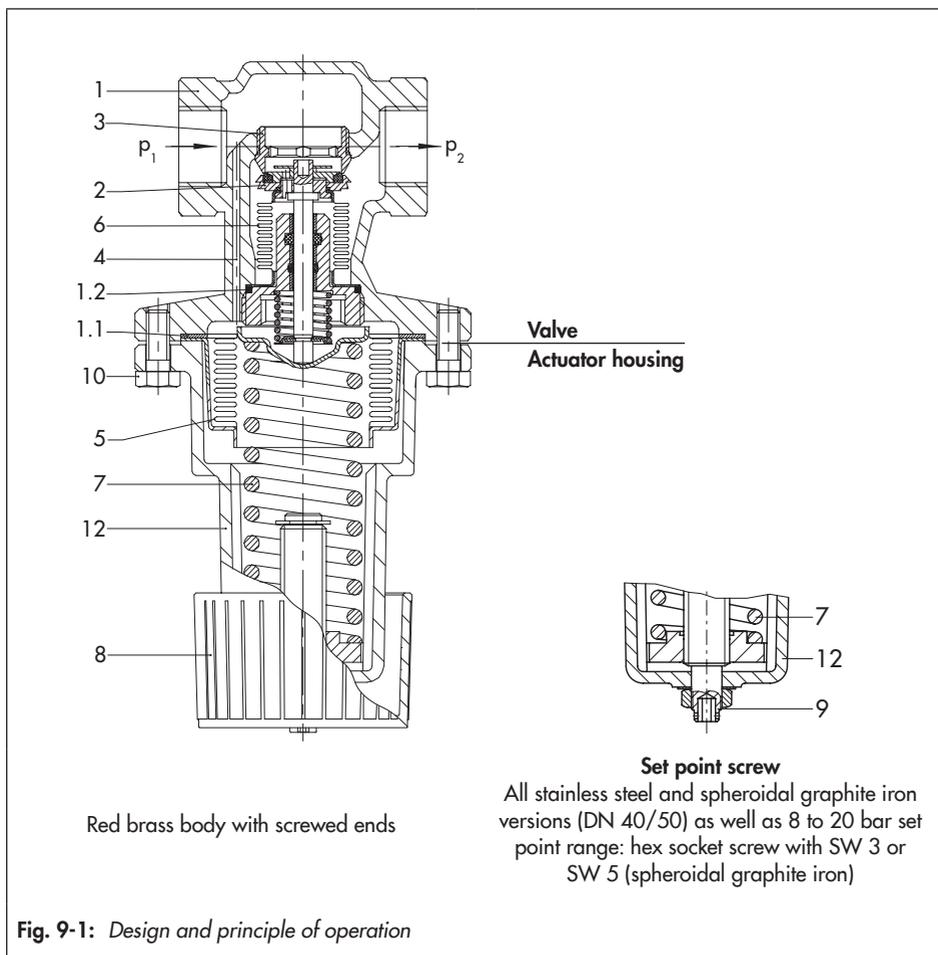

Fig. 9-1: Design and principle of operation
Legend for Fig. 9-1
- See Fig. 9-1
→ See Fig. 9-1